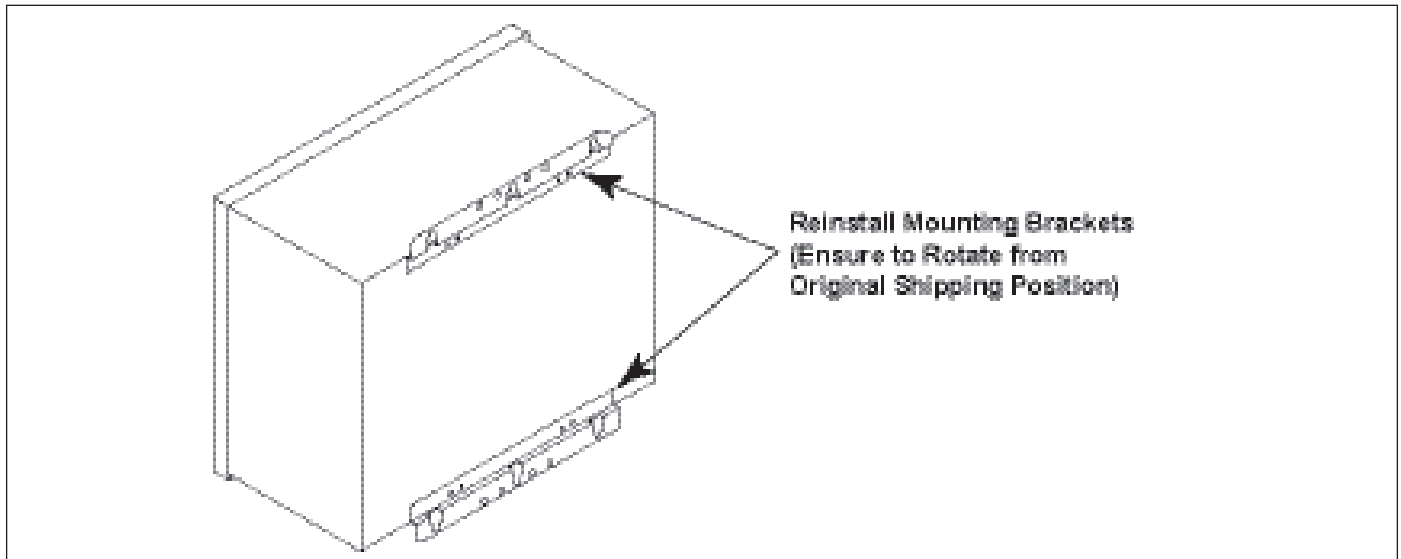

Figure 8. Reinstall Mounting Brackets on Control Centre
- Reinstall the mounting brackets to the top and bottom of the back of the control centre using the four (4) screws that were removed in *Step 2*. Ensure that the brackets are rotated from the original shipping position (see Figure 8).